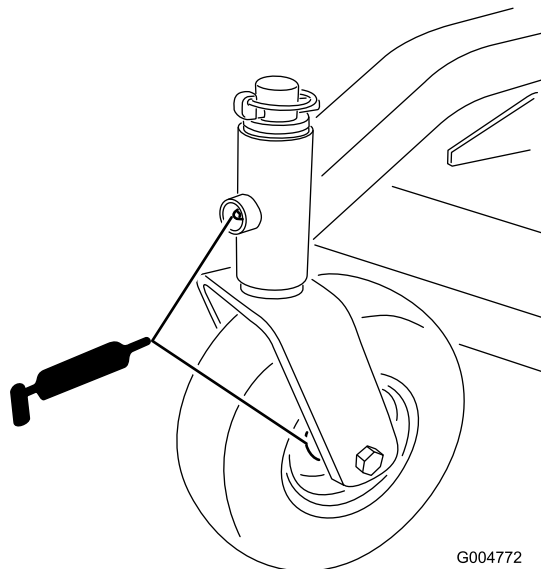

Figure 13
- castor spindle bushings (Figure 13)
- castor wheel bearings (Figure 13)